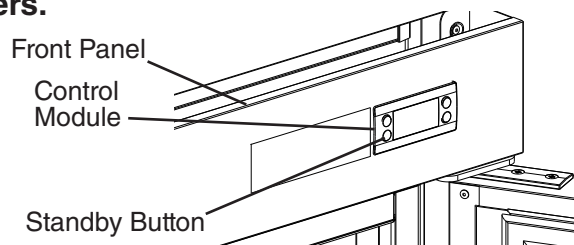

Fig. 37
- 2) If the cabinet temperature is not displayed on the control module, press and hold the standby button on the control module until "ON" appears in the display. See Fig. 37. Factory default is "ON".